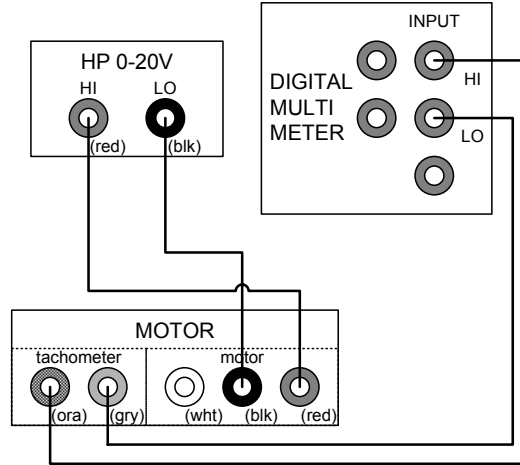

Figure 4.6: Wiring Diagram for measuring V_i , i_a and V_{tach}
1. Remove the potentiometer from the motor assembly. Adjust your wiring to match figure 4.6.